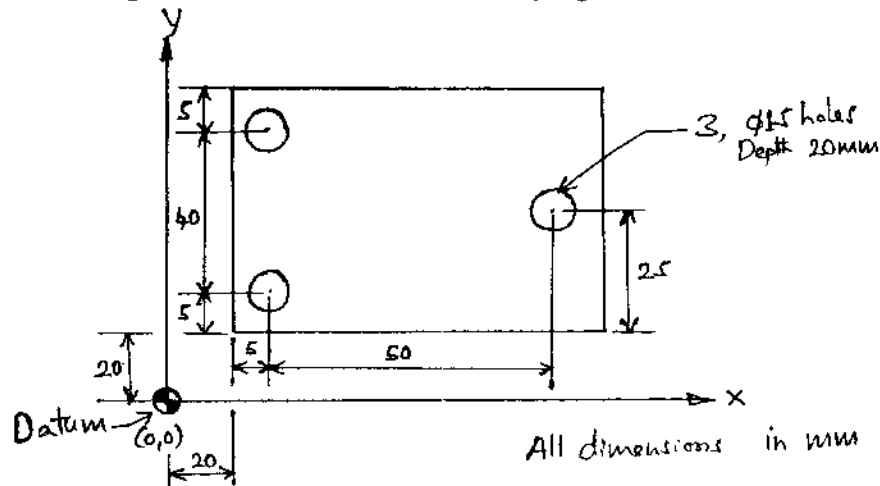

Fig.Q7(b)
b. Write a manual part program for machining the component shown in Fig.Q7(b). Machining involves 3 holes, 15 mm diameter with depth of holes as 20 mm. make suitable assumptions. Also give the meaning of G and M codes used in the program. (10 Marks)